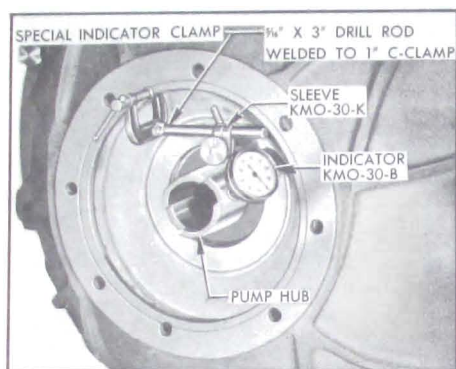

Figure 5-69—Checking Run-Out of Converter Pump Hub
3. Prepare a special dial indicator clamp by welding a piece of 5/16\" x 3\" drill rod to a 1\" C-clamp. Use the special clamp and Sleeve KMO-30-K to mount Dial Indicator KMO-30-B so that indicator stem bears against the pump hub as shown in Figure 5-69.